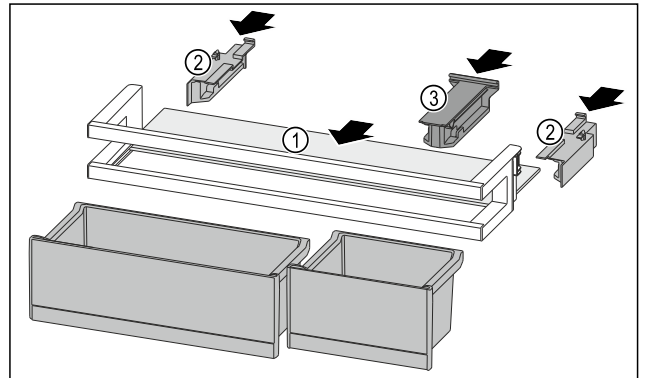

Fig. 95
- ▶ Push the shelf Fig. 95 (1) into the side recesses.
- ▶ Insert the side parts Fig. 95 (2).
- ▶ Insert the holding part Fig. 95 (3).